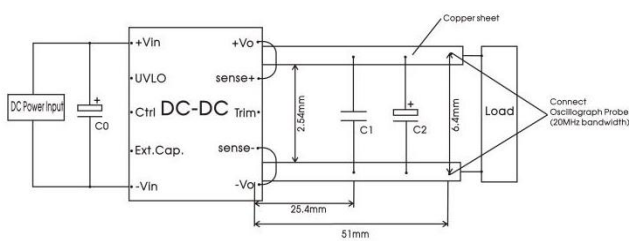

Fig.3
③The "Tip and barrel method" is used for ripple and noise test, for details please refer to Fig.3;
④When the altitude is above 2000m, the product surface max. temperature must be below 105°C.
All the DC-DC converters of this series are tested before delivery using the recommended circuit shown in Fig. 3.